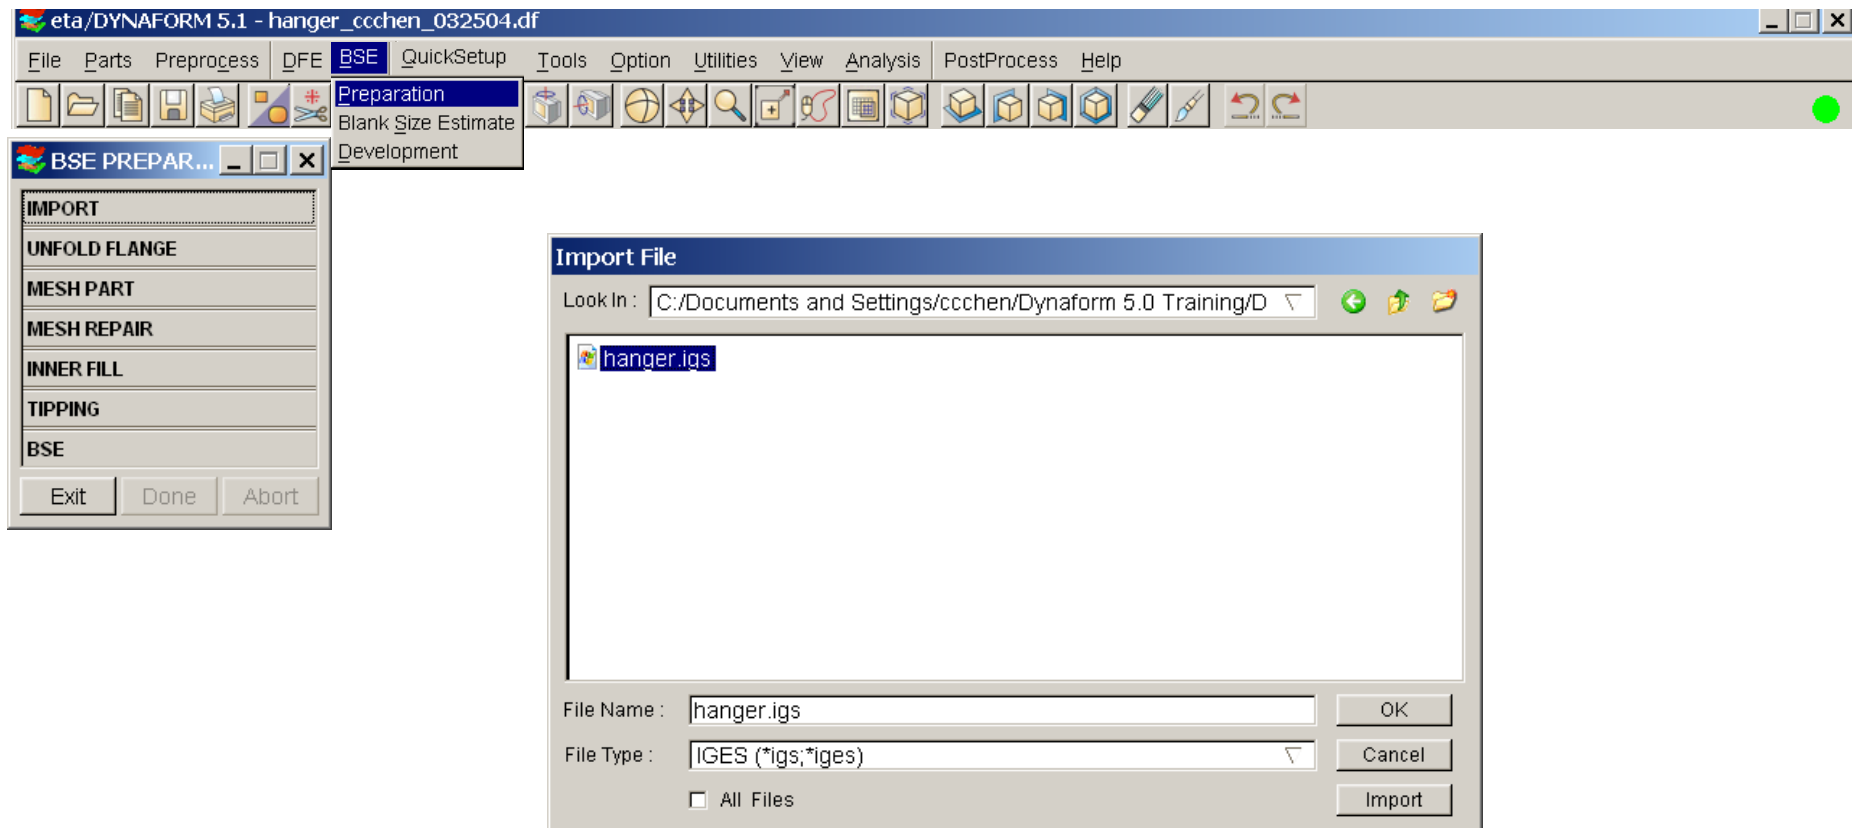

Figure 1.2
- a) Click on *BSE* (See Figure 1.2)